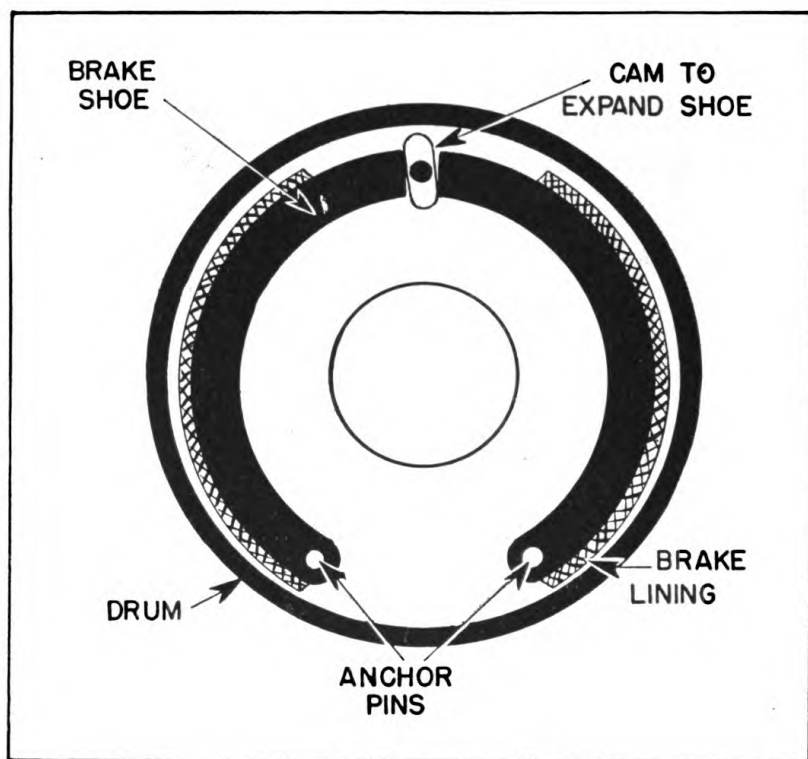
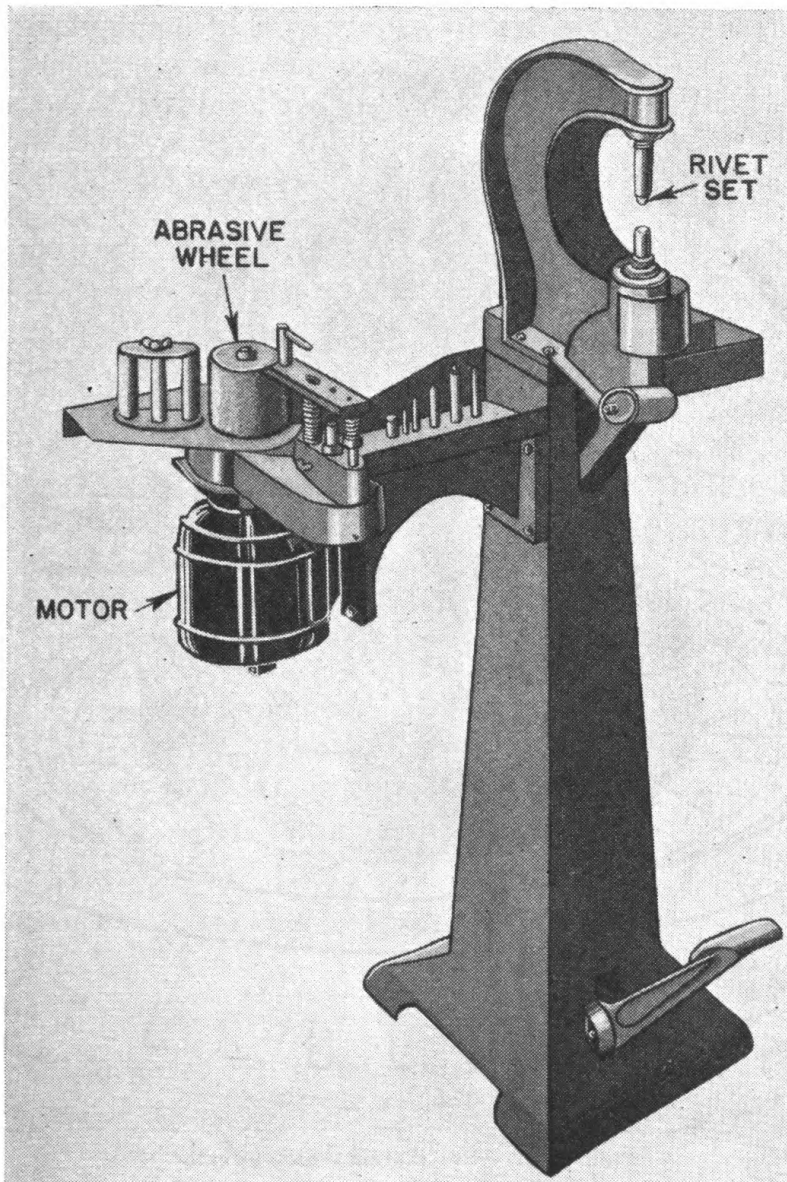
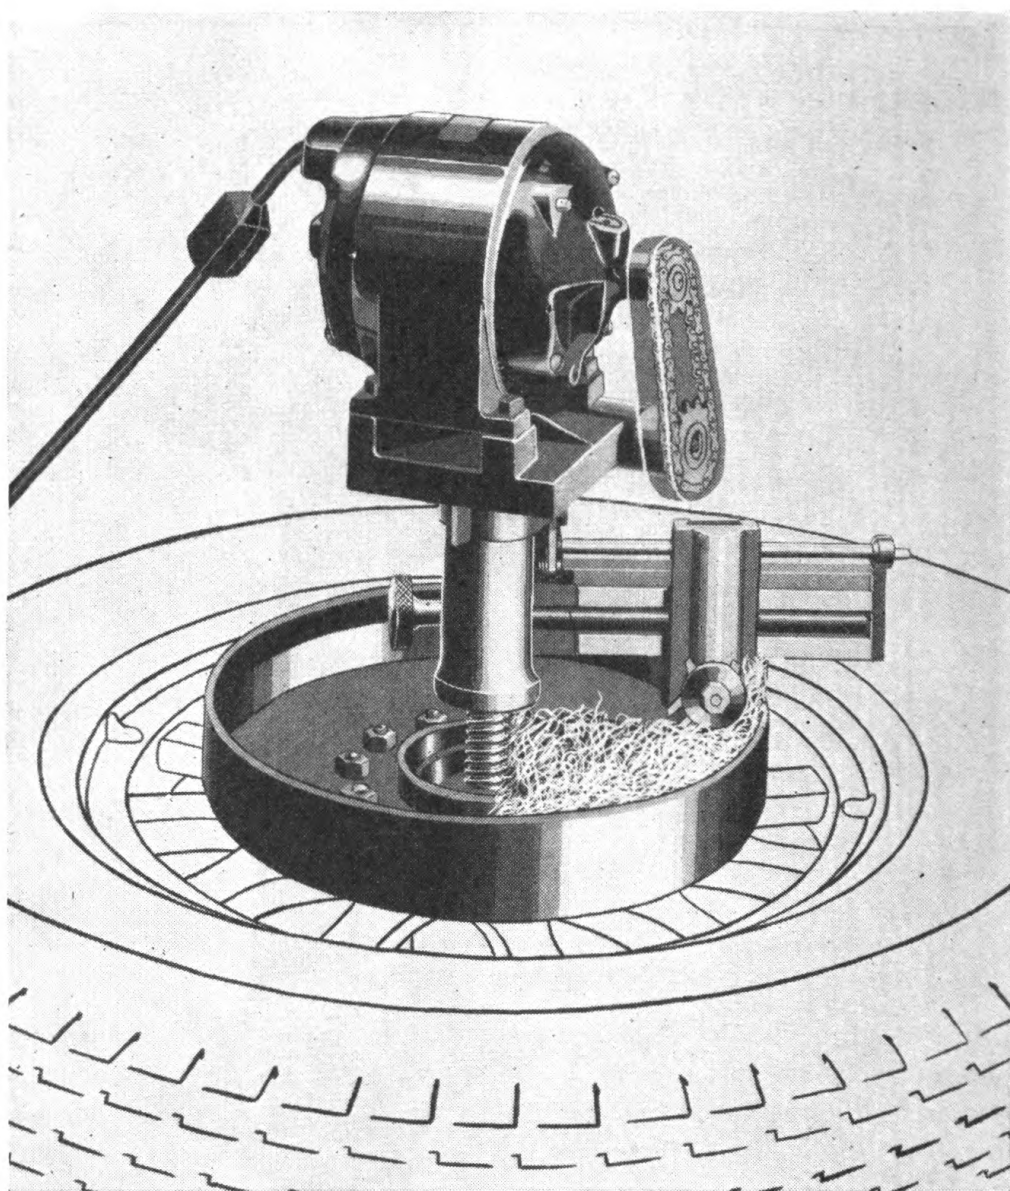

FIGURE 120.—Automotive brakes.
FIGURE 121.—Brake relining machine.
FIGURE 122.—Brake drum truing machine.
39. Brake relining and drum truing equipment.—In the operation of automotive brakes a lining material exerts a frictional force against a drum, as illustrated in figure 120. To function properly, the brake linings must be in good condition, and their entire surface must come in contact with the drum. These linings become inefficient from wear; frequently the drums get out of round or acquire an irregular surface, and repairs to either or both are a common maintenance operation. The brake relining machine (fig. 121) and the brake drum truing machine (fig. 122) are power tools ordi-